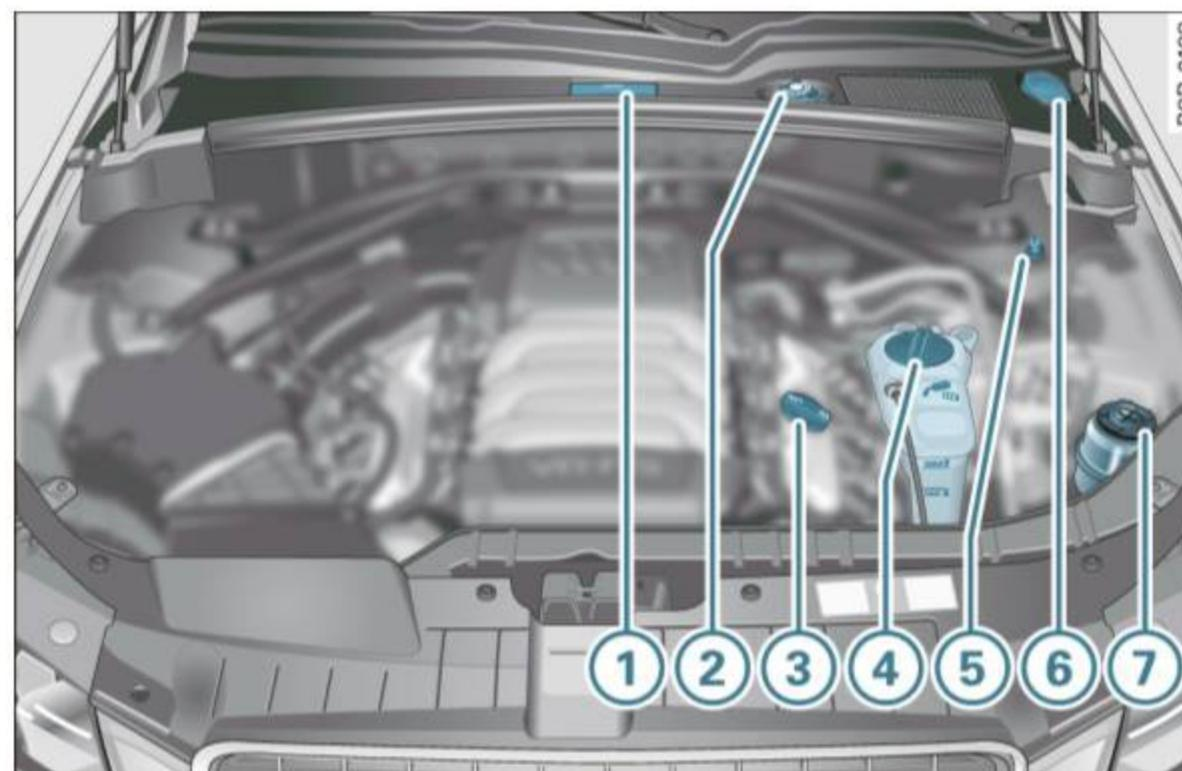

Fig. 200 Typical layout for containers and engine oil filler cap
①	Jump start point (+) under a cover	266, 310
②	Brake fluid reservoir (☉)	262
③	Engine oil filler cap (🛢)	257
④	Coolant expansion tank (🌊)	260
⑤	Jump start point (-) with hex head screw	266, 310
⑥	Windshield/headlight washer container (🚿)	267
⑦	Power steering reservoir	217
The position of the engine oil filling hole ⇒ fig. 200 (item ③) can differ depending on the engine design. ▶